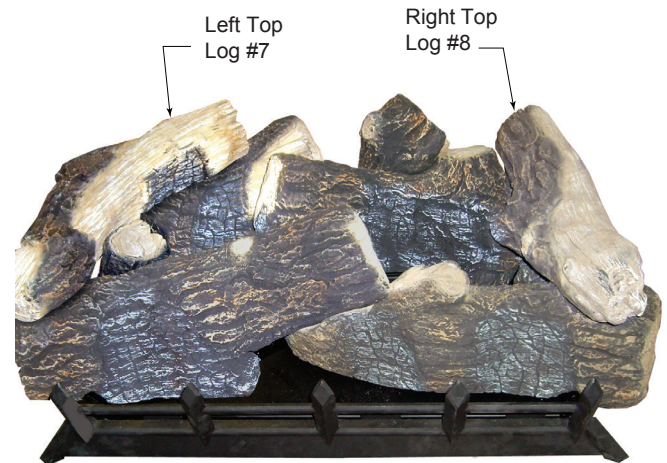

Figure 6.10 - Log #8 Placement
8. Place right top log (#8) onto right rear (#3) and right front (#2) logs using locator on bottom of right top log. See Figure 6.10.